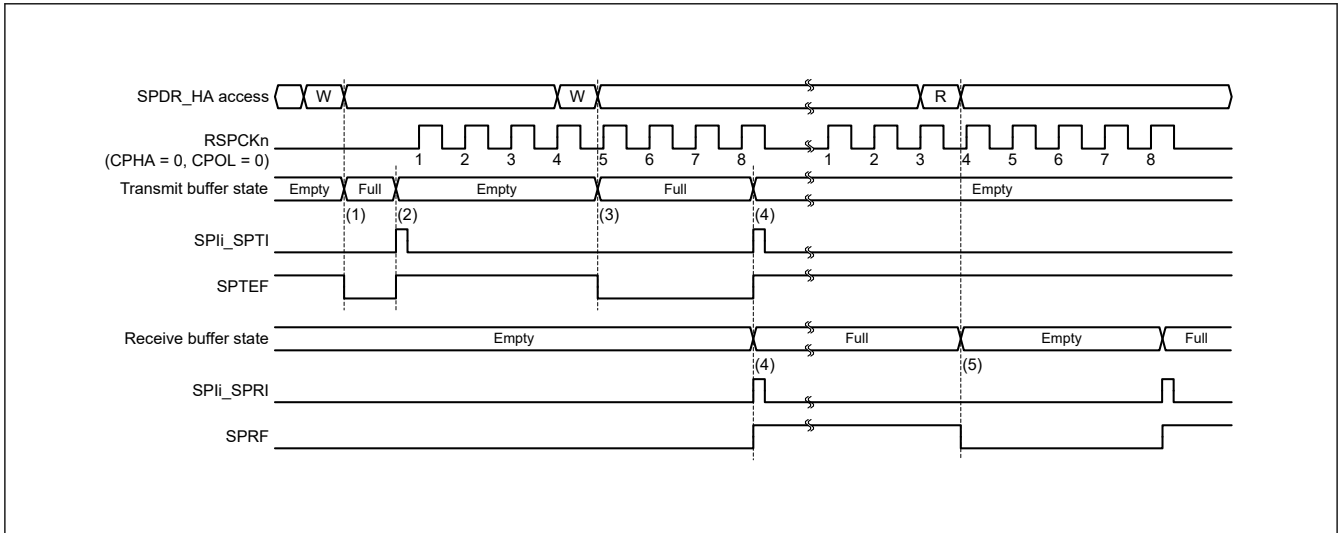
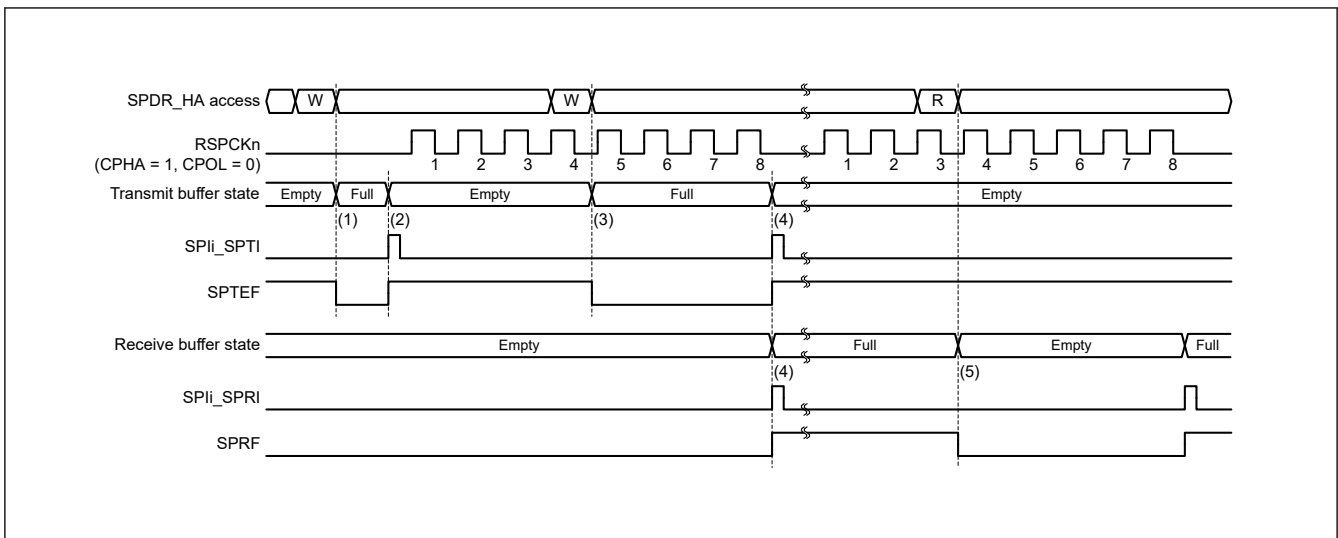

Figure 28.26 Operation example of the SPIi_SPTI and SPIi_SPRI interrupts when CPHA = 0 and CPOL = 0 in master mode
Figure 28.27 Operation example of the SPIi_SPTI and SPIi_SPRI interrupts when CPHA = 1 and CPOL = 0 in master mode
Figure 28.26 and Figure 28.27 show examples of operation of the transmit buffer empty interrupt (SPIi_SPTI) and the receive buffer full interrupt (SPIi_SPRI). The SPDR_HA register accesses shown in these figures indicate the conditions of access to the register, where W denotes a write cycle and R a read cycle. In Figure 28.26, the SPI performs an 8-bit serial transfer when SPCR.TXMD bit is 0, the SPCMD0.CPHA bit is 0, and the SPCMD0.CPOL bit is 0. In Figure 28.27, the SPI performs an 8-bit serial transfer when SPCR.TXMD bit is 0, the SPCMD0.CPHA bit is 1, and the SPCMD0.CPOL bit is 0.
The operation of the SPI at timings (1) to (5) in Figure 28.26 and Figure 28.27 is as follows: